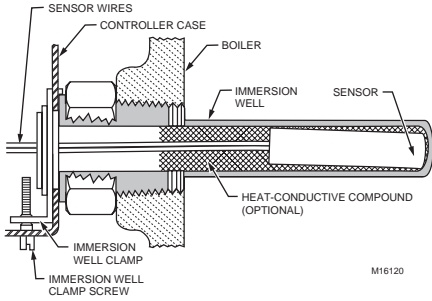

Fig. 2. Position of sensor in immersion well.
*If the well is not a snug fit on the sensor, use the heat-conductive compound (furnished with TRADELINE® models) as follows: Fold the plastic bag of compound lengthwise and twist it gently. Then snip off end of bag and work the open end of the bag all the way into the well. Slowly pull out the bag while squeezing it firmly to distribute compound evenly in the well. Bend the wiring, if necessary, to hold the sensor against the bottom of the well and to hold outer end of the sensor in firm contact with the side of the well. See Fig. 2. Wipe excess compound from the outer end of the well.*
3. Insert the sensor into the well as shown in Fig. 2 or 3. (See Replacement Sensor Installation section for details.)